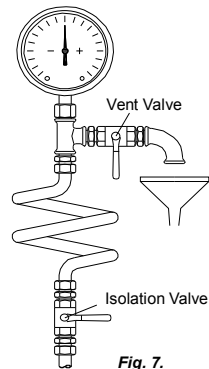

Fig. 7.
- Pressure and vacuum gauges must be properly anchored and connected at the measuring points located on the pump flanges by means of or on the pipes close to the flanges approximately 8 mm diameter tubing with pig tail configuration to lessen pressure fluctuation. For safety purposes isolating and vent valves should be fitted before the gages (Fig. 7).